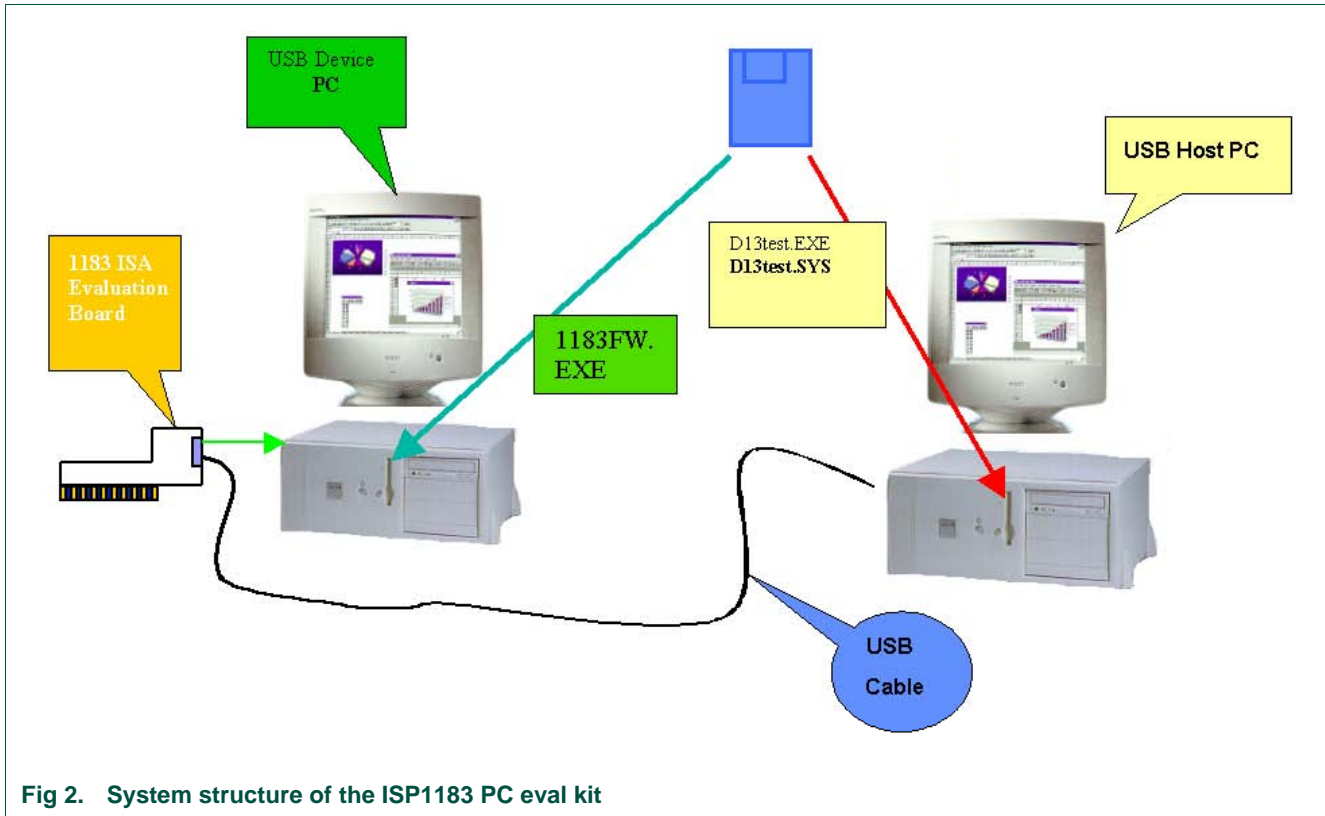

Fig 2. System structure of the ISP1183 PC eval kit
- ISP1183 eval board, as shown in Fig 2.